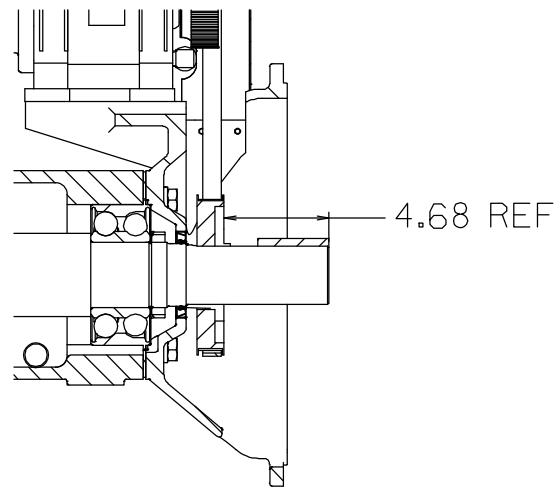

Figure 7. Drive Sprocket Positioning
Install the key (21) in the shaft keyway, making sure to leave room in the keyway for the drive key (28, Figure 3). Install the bushing (19) and sprocket (18) on the shaft to the dimension shown in Figure 7.